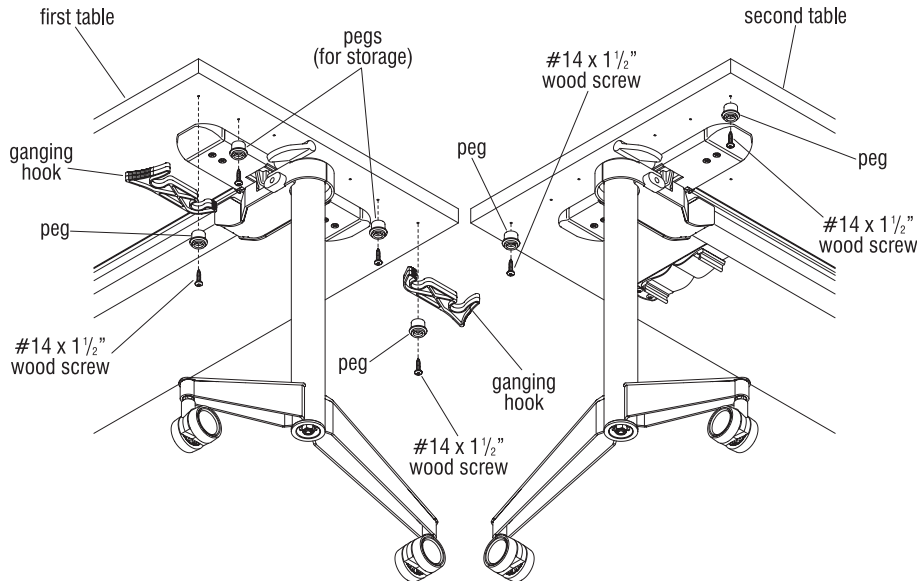
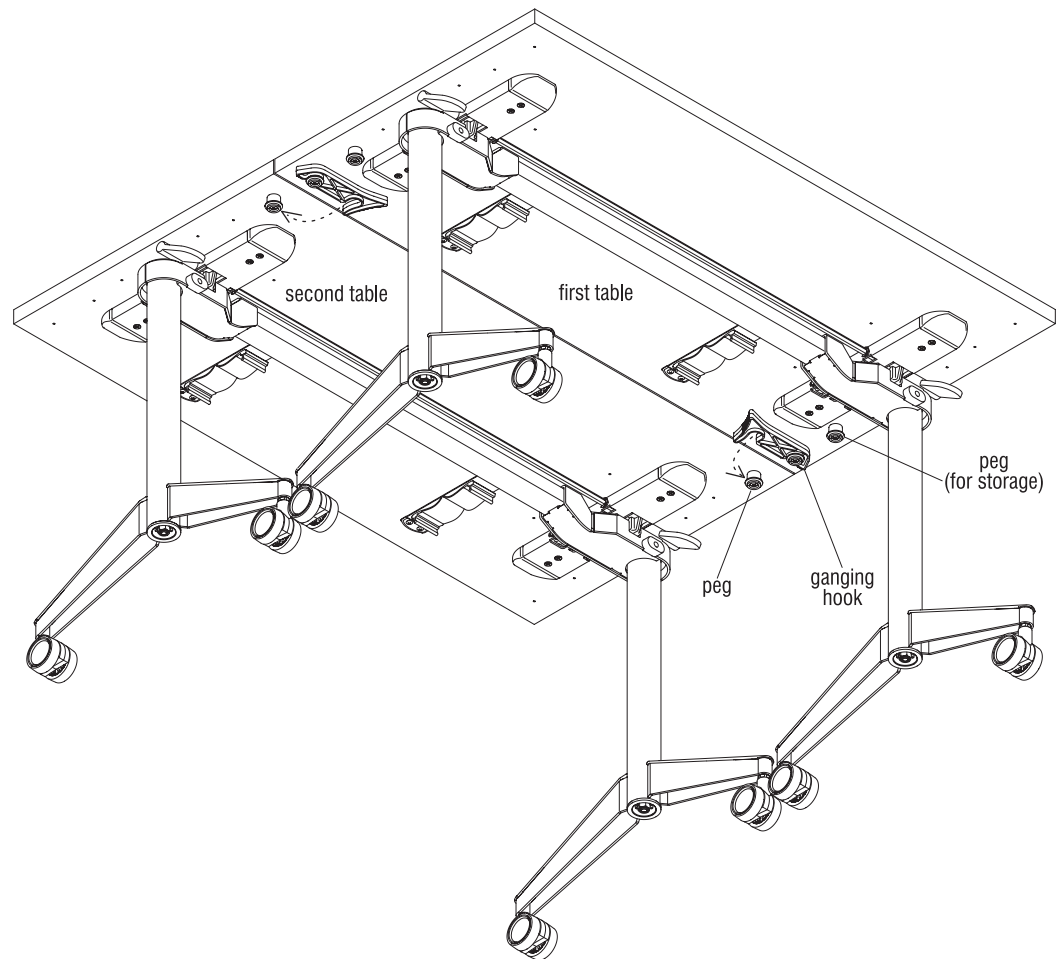

Figure 1 - 24/30" Wide Nesting Tables with Side-to-Side Ganging
Figure 3 - Nesting & Fixed-Base Tables with Back-to-Back Ganging
1. As illustrated, and based on the table width, position the two ganging hooks as shown, at the underside of the first table. Install the two hooks to the first table using two pegs and #14 x 1 1/2" wood screws. Next, install two pegs at the other illustrated locations for future use to store ganging hooks (Figure 1).
2. At the second table, install two pegs in line with the first set of pegs (Figure 1).
Note: Take note of the correct orientation of ganging hooks and peg mounting locations to assure proper latching for back-to-back ganging (Figure 3).
1. As illustrated in Figure 3, and following instructions for ganging hook installation on page 1, install hooks and pegs for back-to-back ganging of two tables (Figures 1 & 3). Next, install two pegs at the other illustrated locations for future use to store ganging hooks (Figure 3).
2. Move tables together and swing the ganging hooks of the first table to securely engage the pegs under the second table (Figure 3).